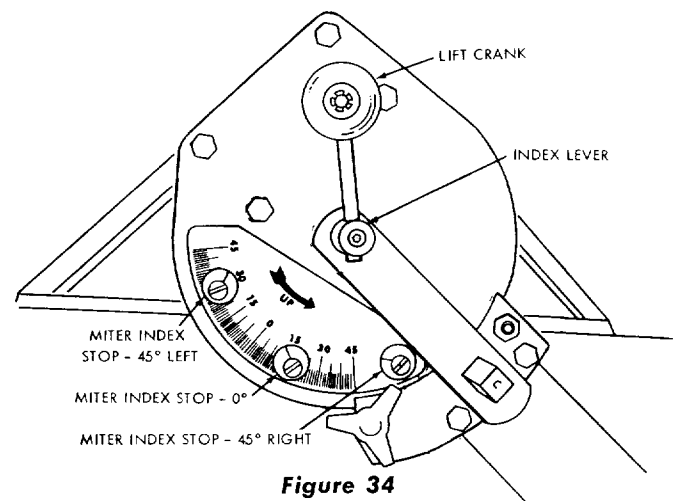
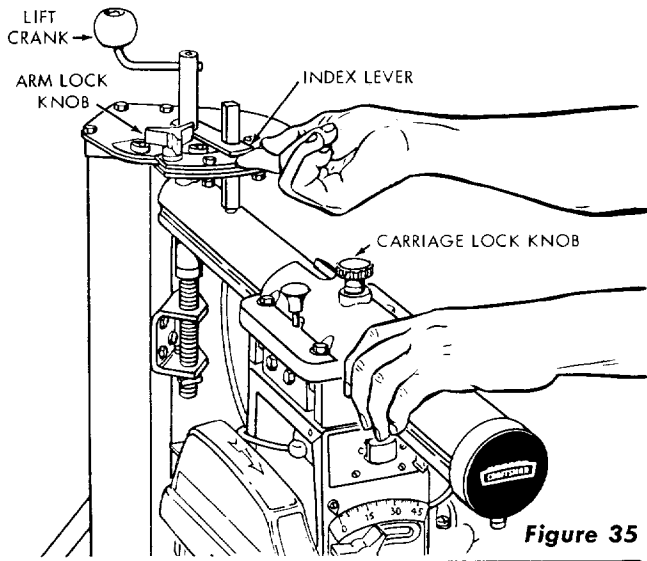
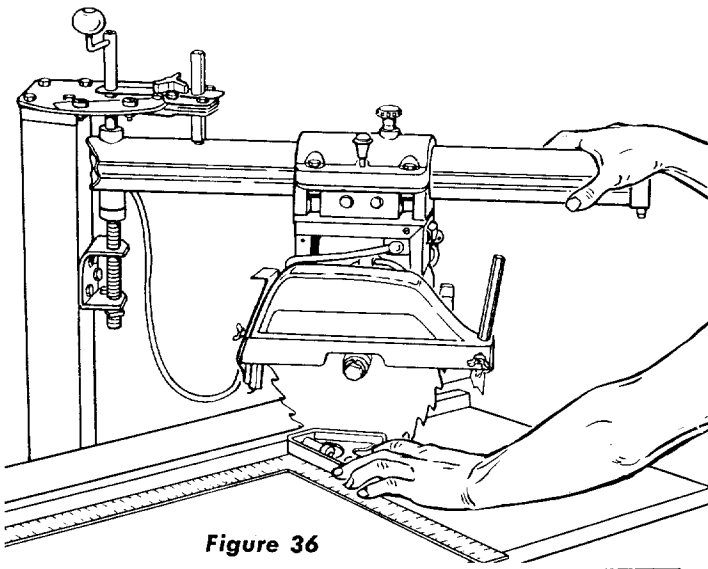
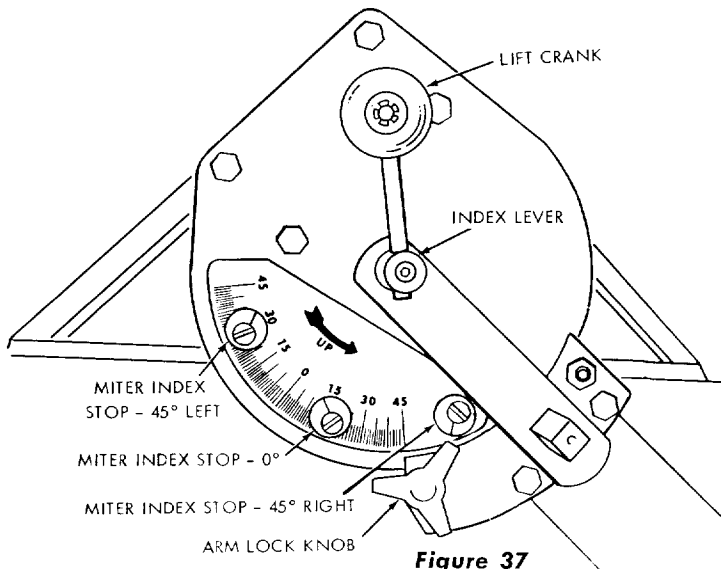

Figure 34
Figure 35
Figure 36
Figure 37
NOTE: Stops are provided for rapid indexing of the radial arm at 0°, 45° left and 45° right. (See figure 34.) The 0° stop is adjusted at the factory but both 45° stops must be checked and adjusted.
- (1) Loosen the arm lock knob (figure 35), raise the index lever as shown and move the radial arm to the right until the index lever has passed over the right-hand 45° stop and release the index lever.
- (2) Move the radial arm to the left until the index lever is resting against the 45° right index stop (figure 37). Hold the arm against the stop and tighten the arm lock knob (figure 35).
- (3) Move the carriage on radial arm until the saw blade is just forward of the rip fence and tighten the carriage lock knob.
- (4) Remove the base from a combination square and place the base and framing square in the position shown in figure 36.
- (5) If the setting is correct, check the screw that secures the 45° right miter index stop (figure 34) to make sure it is tight. Hold the nut underneath and tighten the screw securely.
- (6) If an adjustment is needed, loosen the screw in the 45° right miter index stop (figure 34) and rotate the stop to the position shown in figure 37.
- (7) Loosen the arm lock knob (figure 37) and, with the squares in place as shown in figure 36, move the arm until the saw blade is positioned at 45° (as measured with the squares) and tighten the arm lock knob.
- (8) Rotate the 45° right miter index stop clockwise with a screwdriver. As the screw is rotated, the eccentric will also rotate until it contacts the index lever where it will stop and the screw will then tighten to secure the eccentric.
- (9) Loosen the arm lock knob (figure 37), move the radial arm a short distance to the right, then back against the 45° stop. Hold it against the stop, tighten the arm lock knob and recheck for accuracy of the setting by measuring with the squares as shown in figure 36. Normally, the setting will be correct, but if not, make additional trial adjustments in small increments until the 45° angle is correct.
- (10) Loosen the arm lock knob (figure 37), lift up on the index lever and move the radial arm to the left until it stops against the left-hand 45° stop. Tighten the arm lock knob.